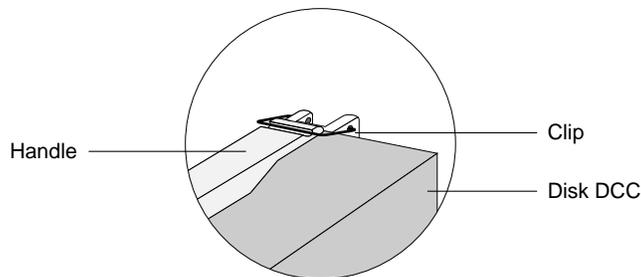

Figure 14. Unlatching the Disk DCC
- a. Release the retaining clip that secures the Disk DCC handle (Figure 14).